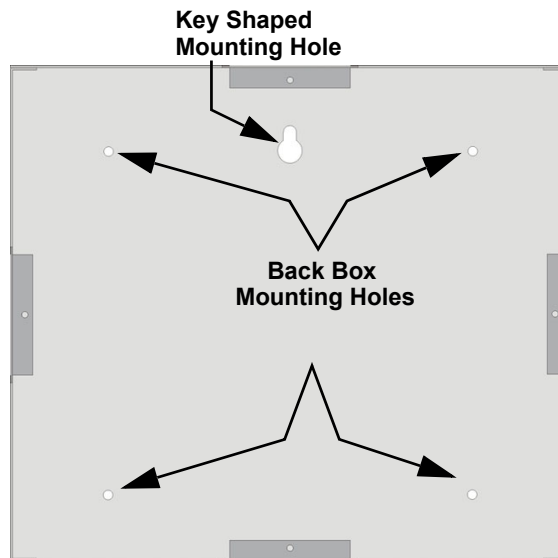

Figure 4.24 Back Box Surface Mount Holes
5. Connect a printer to the 5824 as shown in Figure 4.24.